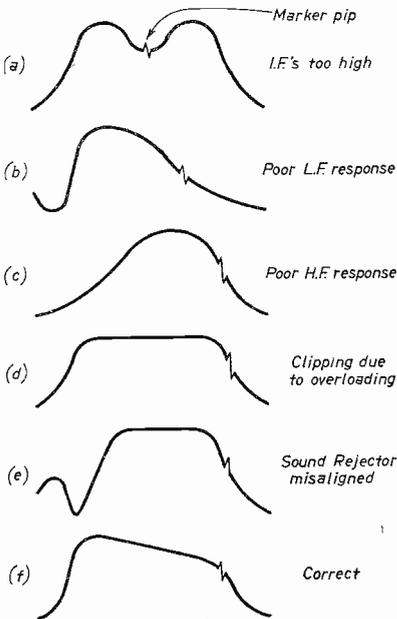

Fig. 4: Typical alignment traces obtained on oscilloscope as described in the text.
signal generator. The marker produces a "pip" on the response curve, as seen in Fig. 4, denoting the exact frequency of a spot on the curve.
*input to the set end and to the 'scope Y input can cause a curve that looks (like a film star's) too good to be true. See Fig. 4(d).*